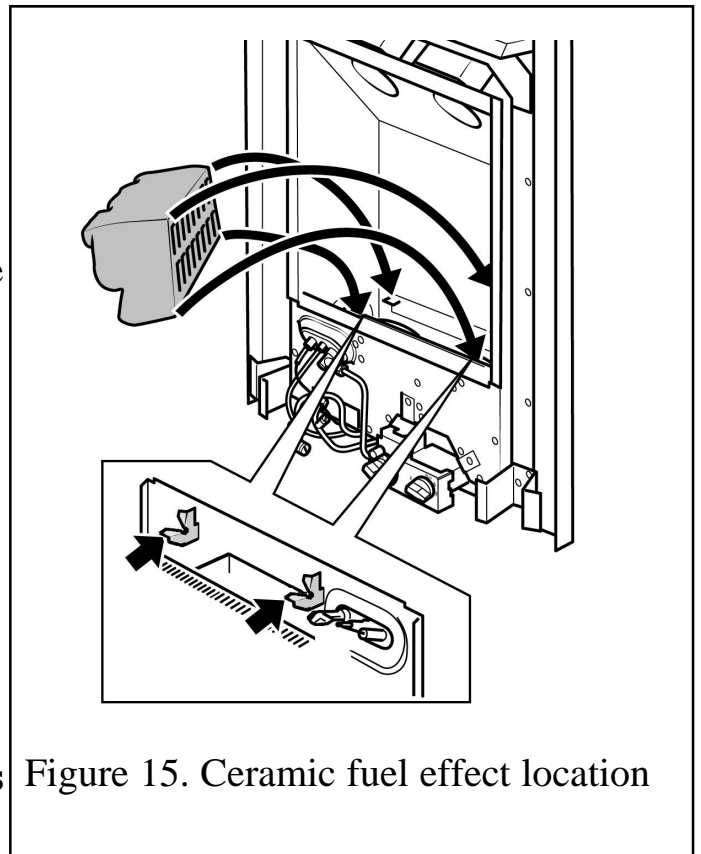

Figure 15. Ceramic fuel effect location
- Fit the ceramic fuel effect into the fire above the burner. The front of the ceramic fuel effect should locate on the horizontal faces but behind the vertical faces of the two location brackets positioned at the front of the burner module (See figure 15).